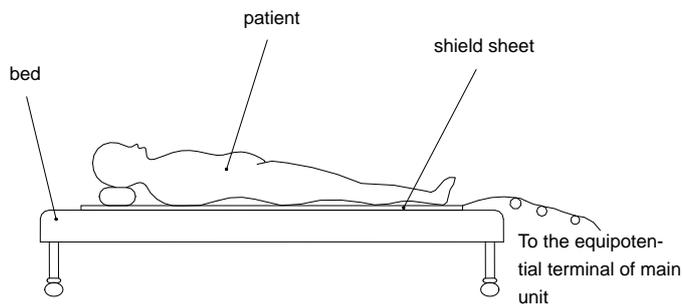

Fig.1-1 Laying a shield sheet to eliminate the hum (AC noise) interference
- g) If during the examination, images are interfered with by AC noise (humming) through the patient, apply a shield sheet between the body and the bed, as shown in Fig. 1-1, and connect the sheet to the equipotential bonding terminal of the main unit. The humming interference noise can be eliminated.